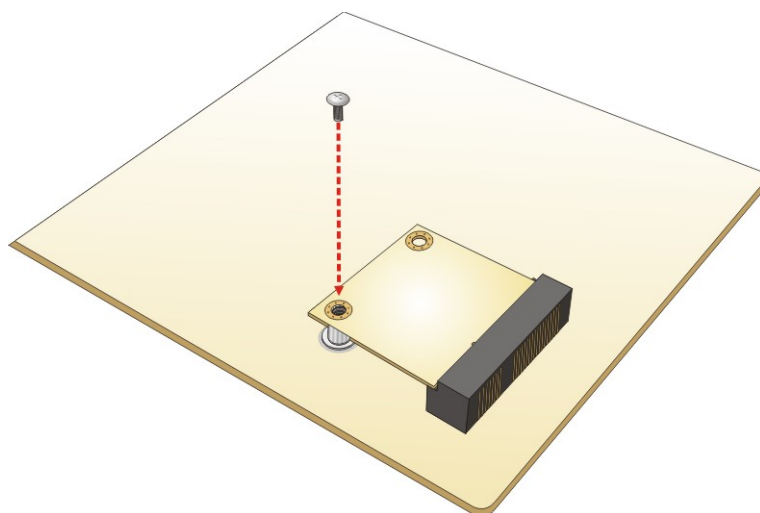

Figure 4-9: Securing the Half-size PCIe Mini Card
Step 4: Secure the half-size PCIe Mini card with the retention screw previously removed (Figure 4-9).